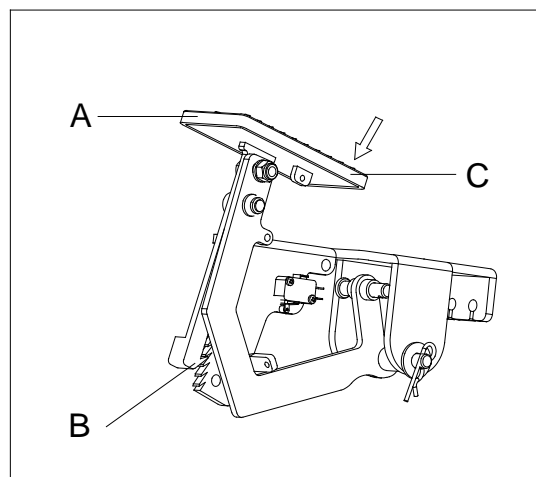

Figure 9
1. Engage the parking brake by pressing on the front part of the pedal (A, Figure 9) and engaging the lever (B, Figure 9).
2. Press the rear part of the pedal (C, Figure 9) to release the parking brake.